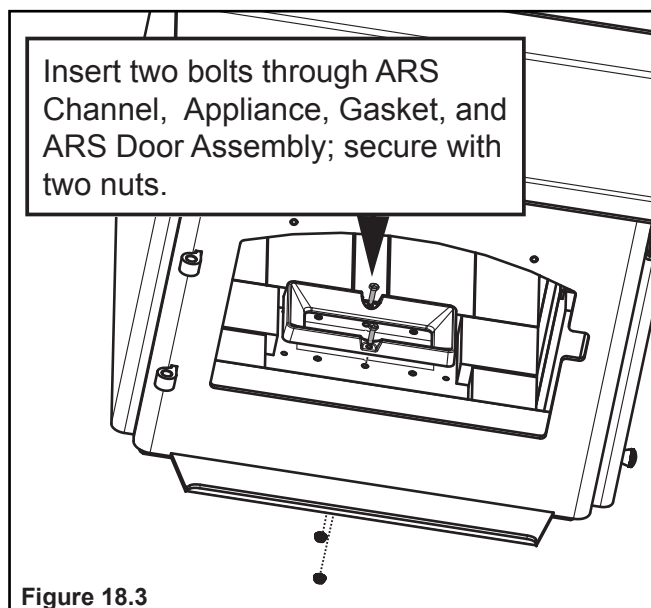

Figure 18.3
11. Using two bolts and two flange nuts to secure ARS channel using 3/8 open end wrench and 7/16 socket wrench (**Figure 18.3 on page 18**).
NOTE: If installing a floor installation of an outside air kit on a Step Top model with a pedestal assembly you must attach the enclosed cover plate with 4 screw to the back of the stove. Other wise you may discard this piece (**Figure 18.3**).
- Use 2 bolts and 2 flange nuts to secure ARS channel using 3/8 open end wrench and 7/16 socket wrench (**Figure 18.3 on page 18**).